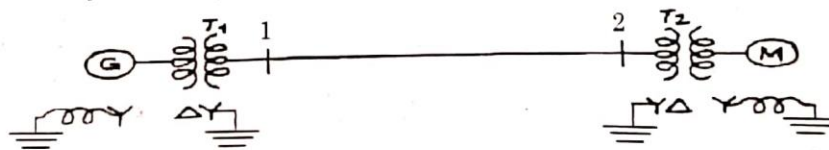

Figure. 5
- (b) A single line to ground fault (on phase a) occurs on the bus I of the system of Figure shown Figure. 5